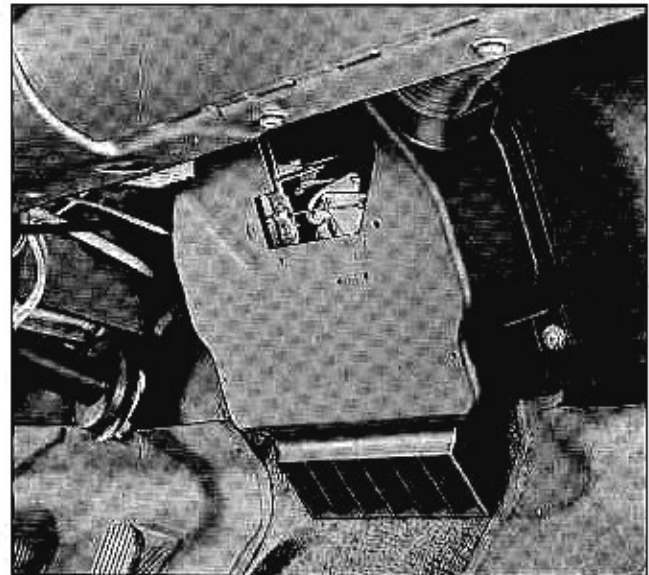

Fig. 3-14 Inspection Hole in Air Outlet Duct
1. Remove inspection hole cover on heater rear air distributor (air outlet duct Fig. 3-14). Identify early type duct by absence of two dowel pin holes—from air selector cam and from cam bracket. Note that a few ducts have one dowel pin hole. These are classed as early type ducts.